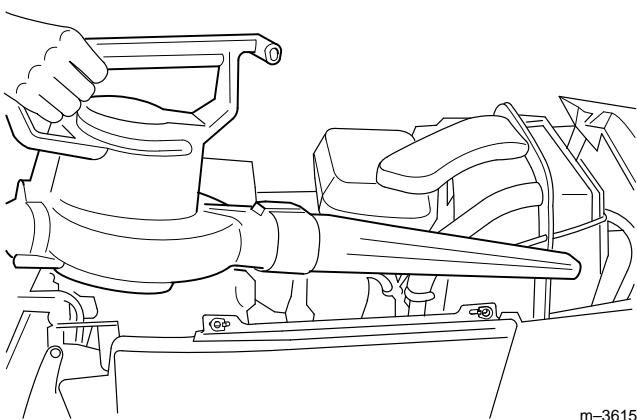

**Figure 7**
3. Wipe away any accumulated debris from the rotating air intake screen (Fig. 7).